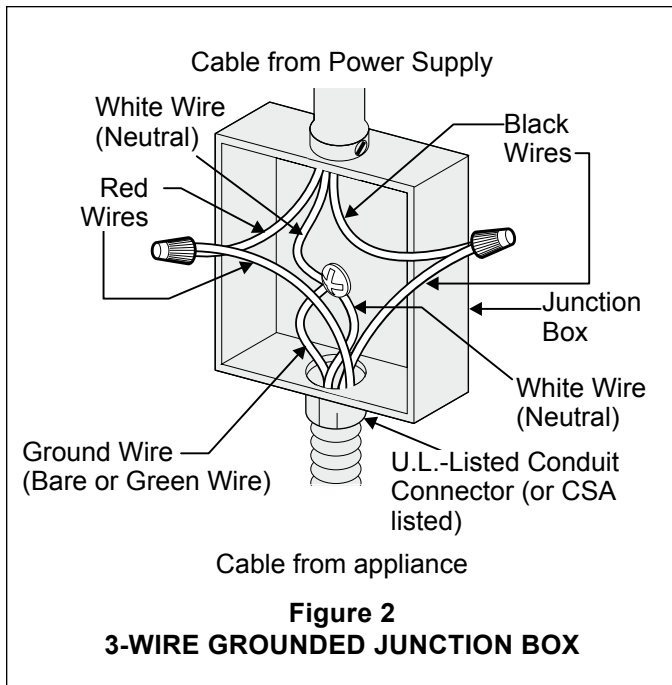
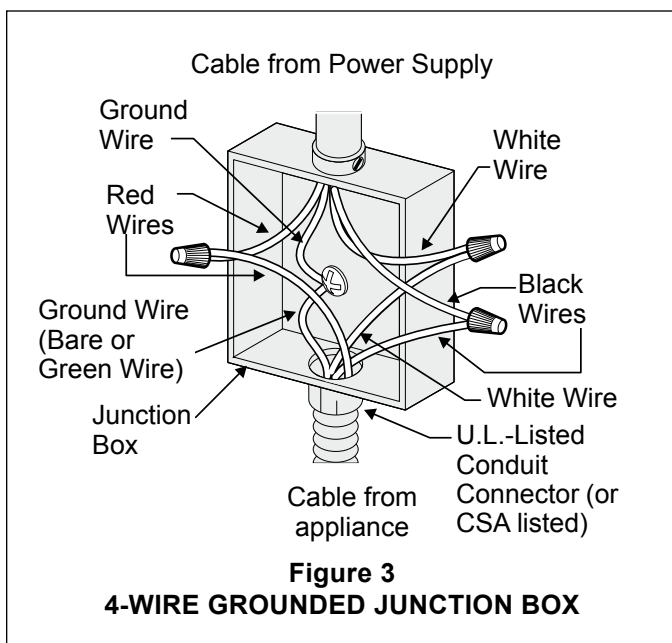

Figure 2
Figure 3
**⚠ WARNING** (If your appliance is equipped with a white neutral conductor.) This appliance is manufactured with a white neutral power supply and a frame connected copper wire. The frame is grounded by connection of grounding lead to neutral lead at the termination of the conduit, if used in USA, in a new branch circuit installation (1996 NEC), mobile home, recreational vehicles, where local code do not permit grounding through the neutral (white) wire or in Canada, disconnect the white and green lead from each other and use ground lead to ground unit in accordance with local codes, connect neutral lead to branch circuit-neutral conductor in usual manner see Figure 3. If your appliance is to be connected to a 3 wire grounded junction box (US only), where local code permit connecting the appliance-grounding conductor to the neutral (white) see Figure 2.
**Where local codes permit connecting the appliance-grounding conductor to the neutral (white) wire (US Only) (see figure 2):**
connect appliance and power supply cable wires as shown in Figure 2.
If oven is used in a new branch circuit installation (1996 NEC), mobile home, recreational vehicle, or where local codes DO NOT permit grounding through the neutral (white) wire, the appliance frame **MUST NOT** be connected to the neutral wire of the 4-wire electrical system. (see figure 3):
3. In the junction box: connect appliance and power supply cable wires as shown in Figure 3.